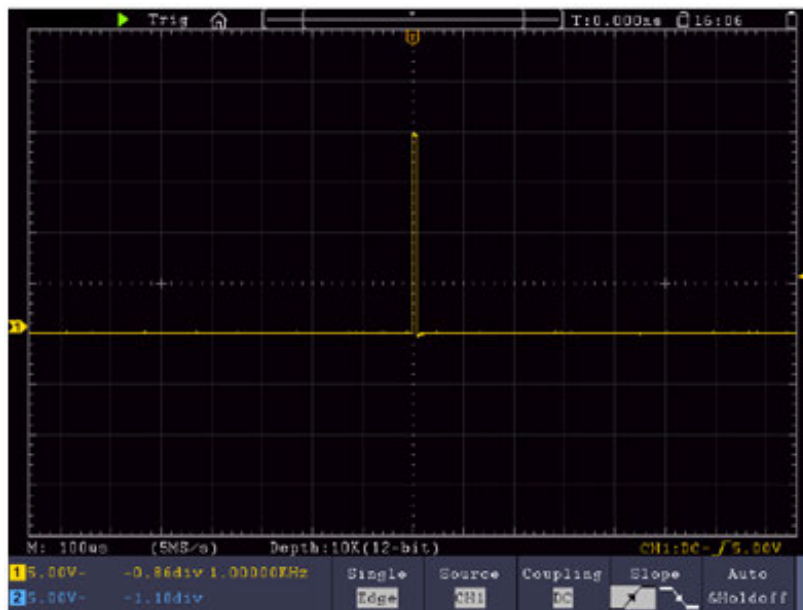

Figure 9-3 Capturing a Single Signal
- (2) Push **CH1** button to select CH1, adjust the **Vertical Scale** and **Horizontal Scale** knobs to set up a proper vertical and horizontal ranges for the signal to be observed.
- (3) Push the **Acquire** button to display the Acquire menu.
- (4) Select **Acqu Mode** in the bottom menu. Select **Peak Detect** in the right menu.
- (5) Push the **Trigger Menu** button to display the Trigger menu.
- (6) Select the first menu item in the bottom menu. Select **Single** in the right menu.
- (7) In the left menu, select **Edge** as the mode.
- (8) Select **Source** in the bottom menu. Select **CH1** in the right menu.
- (9) Select **Coupling** in the bottom menu. Select **DC** in the right menu.
- (10) In the bottom menu, select **Slope** as  (rising).
- (11) Turn the **Trigger Level** knob and adjust the trigger level to the roughly 50% of the signal to be measured.
- (12) Check the Trigger State Indicator on the top of the screen, if it is not Ready, push down the **Run/Stop** button and start acquiring, wait for trigger to happen. If a signal reaches to the set trigger level, one sampling will be made and then displayed in the screen. By using this approach, a random pulse can be captured easily. For instance, if we want to find a burst burr of high amplitude, set the trigger level to a slightly higher value of the average signal level, push the **Run/Stop** button and wait a trigger. Once there is a burr occurring, the instrument will trigger automatically and record the waveform during the period around the trigger time. By turning the **Horizontal Position** knob in the horizontal control area in the panel, you can change the horizontal triggering position to obtain the negative delay, making an easy observation of the waveform before the burr occurs (see Figure 9-3).